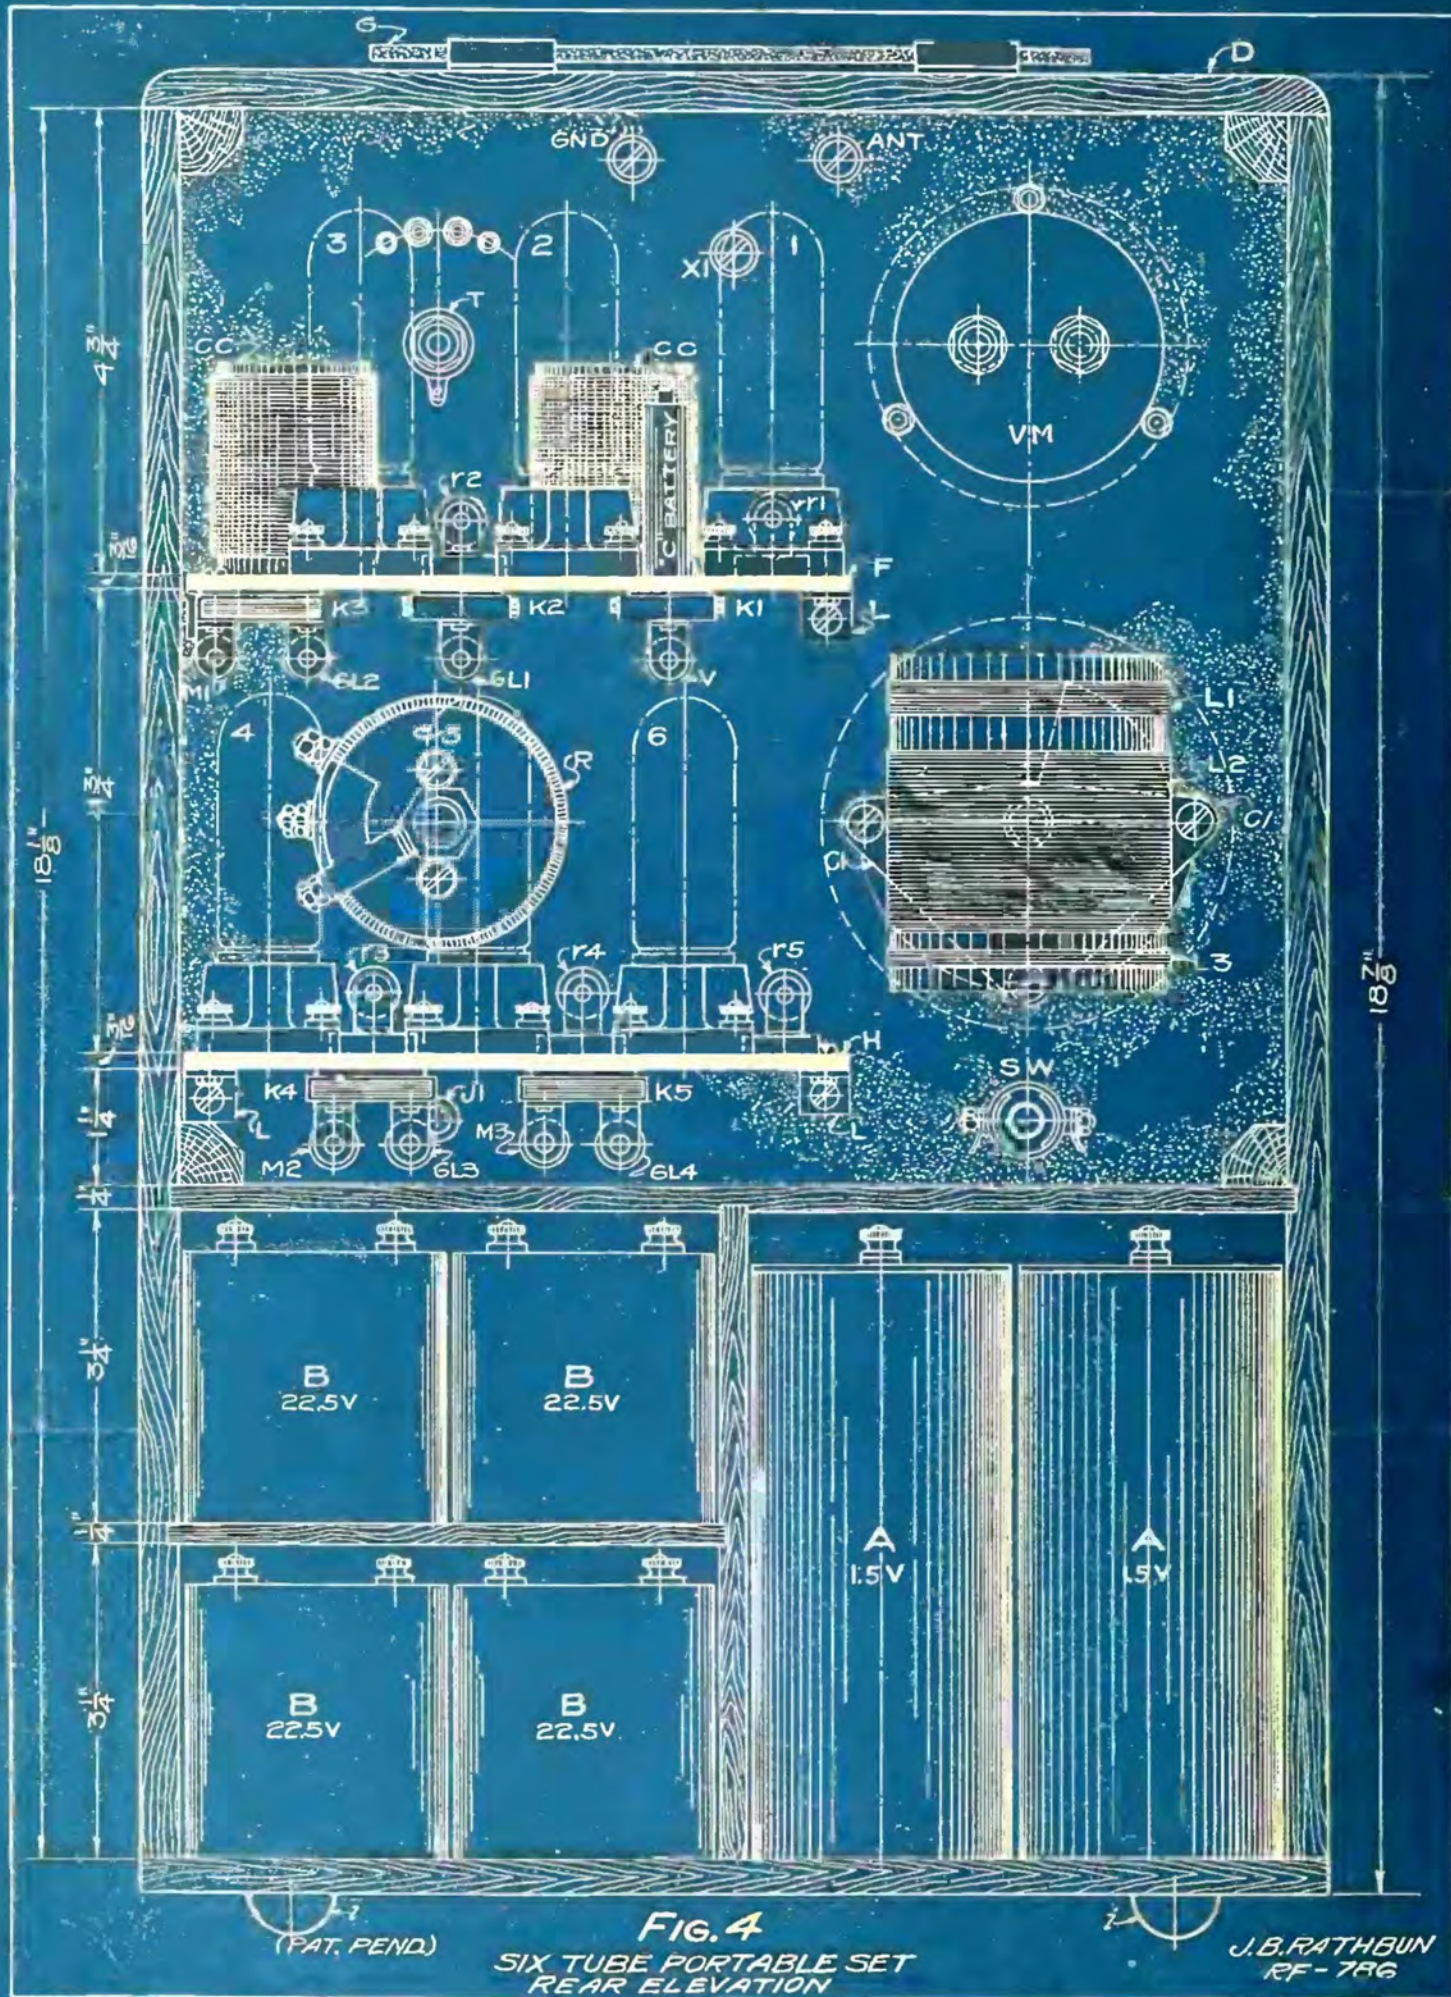

FIG. 4
"PICTURE DIAGRAM" OF WIRING AND CONNECTIONS SPREAD OUT IN ONE PLANE OR LEVEL. OWING TO THIS ARRANGEMENT, THE TWO CHOKE COILS (CC) APPEAR CLOSER TOGETHER THAN THEY SHOULD. SEE FIG. 4.
outer tube is 2.5 inches in diameter and carries both the grid and plate coils of the oscillator circuit. The grid coil carries 20 turns of No. 26 D. S. C. wire and the plate coil consists of 40 turns of the same size wire. The latter is spaced about one half inch from the grid coil. A detail of the oscillator coil is shown in Fig. 4 where the external plate and grid coils are clearly seen. The inner and outer tubes are mechanically connected by short pieces of small fiber tubing through which brass screws are run. When tuned by the 0.0005 mf condenser (C1), this oscillator will fully cover the ordinary range of broadcasting wavelengths.
NOTE! OSCILLATOR COIL ABOVE WITH PICK-UP (a), GRID COIL (b), AND PLATE COIL (c). SEE FIG. 4 FOR GENERAL DESIGN AND ARRANGEMENT OF OSCILLATOR.